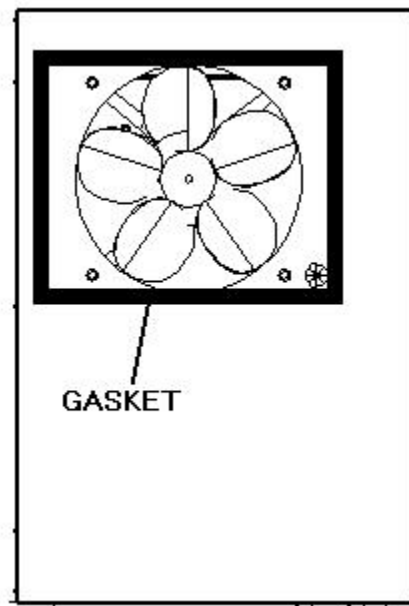

Fig. 2.9 TOP EXHAUST GASKET
- If top exhaust, place another gaskets along the top exhaust at the top of the cooling unit (see Fig.2.9).